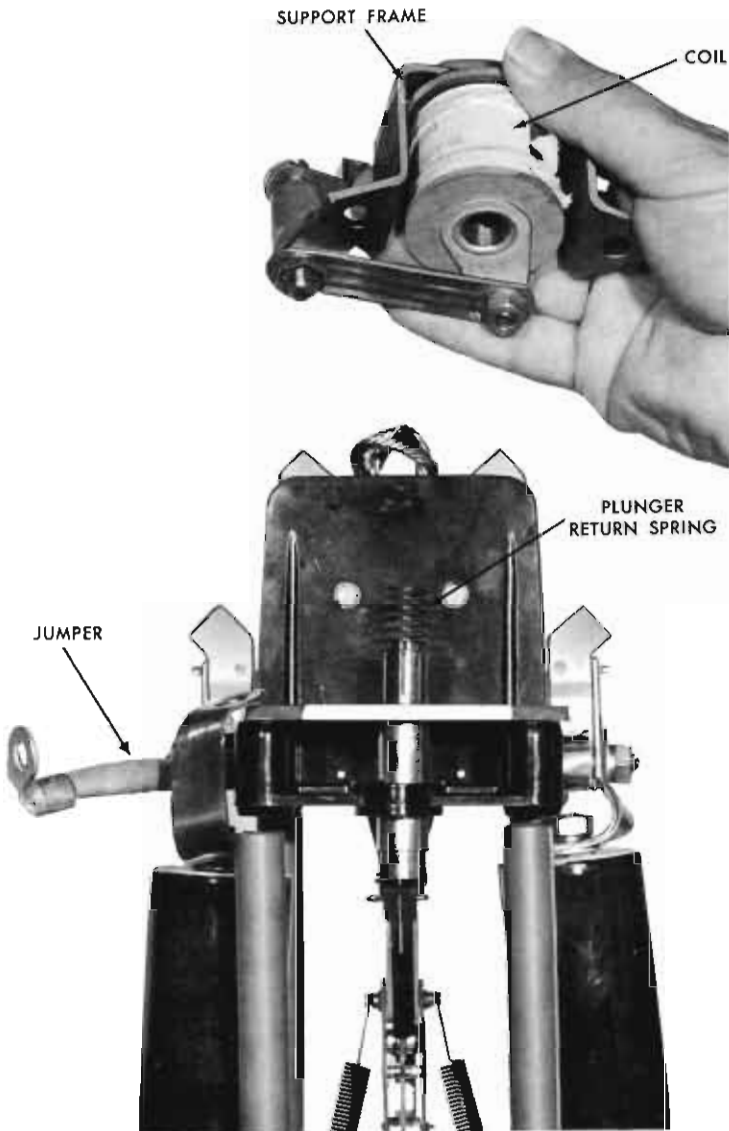

FIGURE 2
3. Lift off support frame and coil as shown in figure 2. Note the position of the solenoid gasket on the support frame when the coil is separated from the frame.